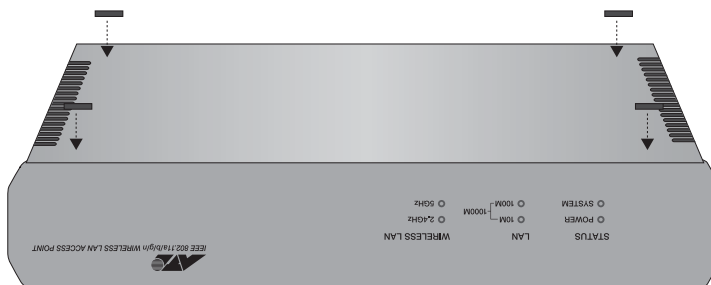

Figure 6. Installing the Rubber Feet
2. Affix the four rubber feet included with the access point to the four corners of the bottom panel of the unit. Refer to Figure 6.